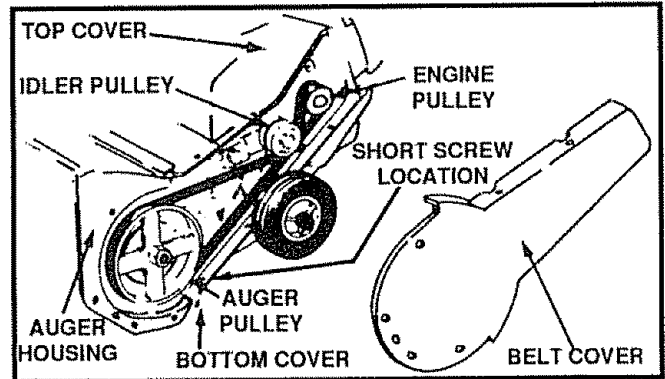
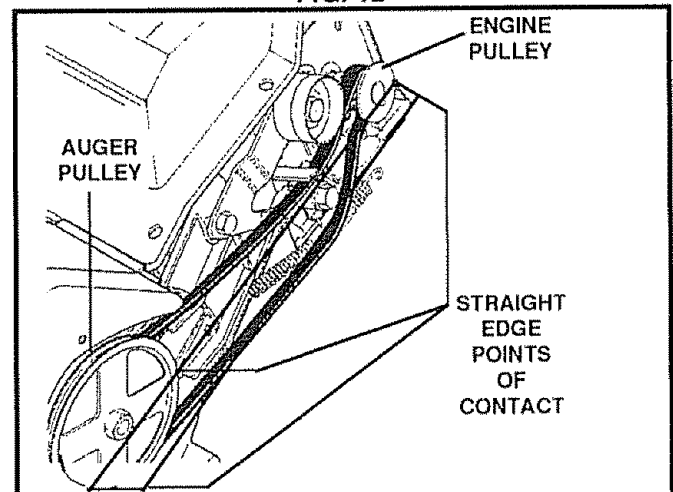

FIG. 11
FIG. 12A
- Remove the belt cover (see Fig. 11, page 15) by removing the 10 screws. There are 5 screws on the front of the belt cover, 1 screw on the bottom of the belt cover, 2 screws on the top cover and 2 screws on the bottom cover (the front screw is shorter than the rear and top screws).
- Place a straight edge approximately 16" long across the large auger pulley, touching two points and extending to the engine pulley (See Fig. 12A). The outside of the engine pulley must be flush with the straight edge. If the pulleys are aligned, skip to the last step (See Fig. 11).
- Reinstall belt cover. Make sure the shorter screw is in the front position (see Fig. 11).